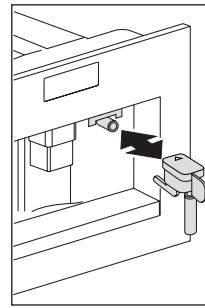

Fig. 13
- ▶ To use the appliance again, insert the hot water spout (Fig. 13) if not already in position, press the  icon (B9). "HOT WATER PRESS OK" is displayed. Press the  icon (B9) within a few seconds and deliver water from the spout for about 30 seconds. When delivery stops, the basic modes are displayed again.